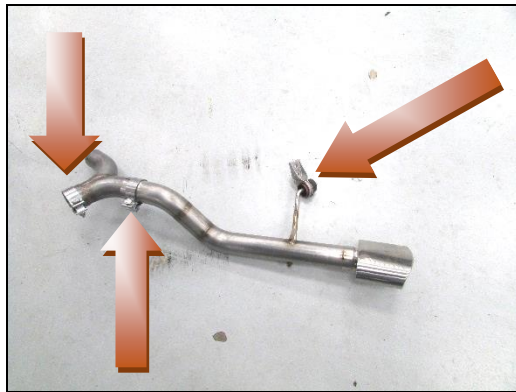

Figure 9
2. On the left side Blackheart tailpipe, install the (x1) OE rubber isolator and (x2) supplied band clamps. Now, slide on the Blackheart Y-pipe (**Figure 9**).